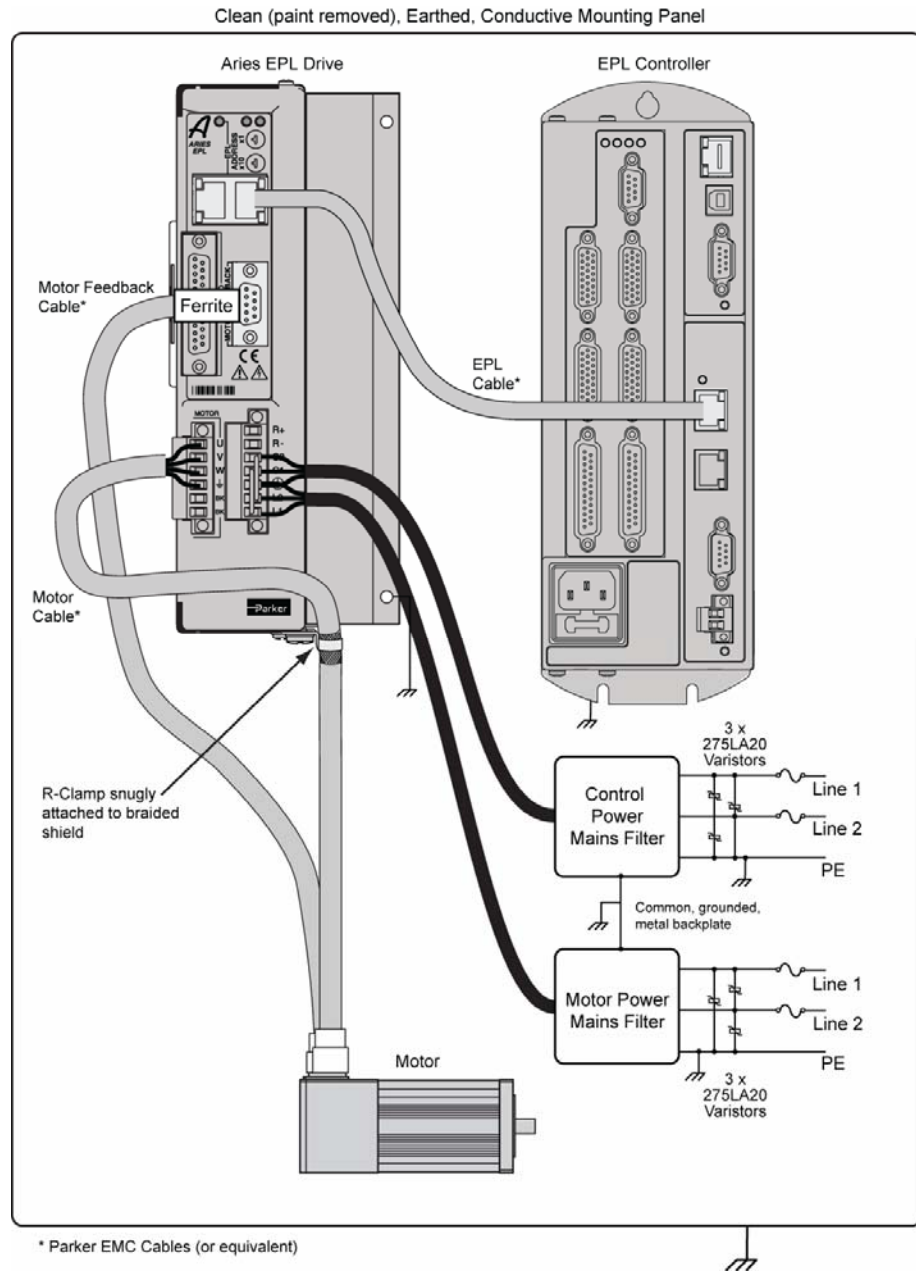

Figure 43 Typical LVD/EMC Installation
- If you mount the drive in an equipment cabinet, *terminate cable braids (screens) as they enter the enclosure*. This can be easily accomplished using the “additional EMC installation hardware” shown Figure 43 on page 110.
There is only one exception: *the motor braid must return to the drive's R-clamp* (located on the bottom of the drive--see Figure 43 on page 110). *Do not* return the motor braid to any other location; its function is to return high-frequency chopping current back to the drive. This may require mounting the connector on a sub-panel insulated from the main cabinet or using a connector having an insulated internal screen from the connector housing.
- Route cables as shown in Figure 43 on page 110.
Figure 43 illustrates a typical panel installation of the drive that meets LVD and EMC requirements.